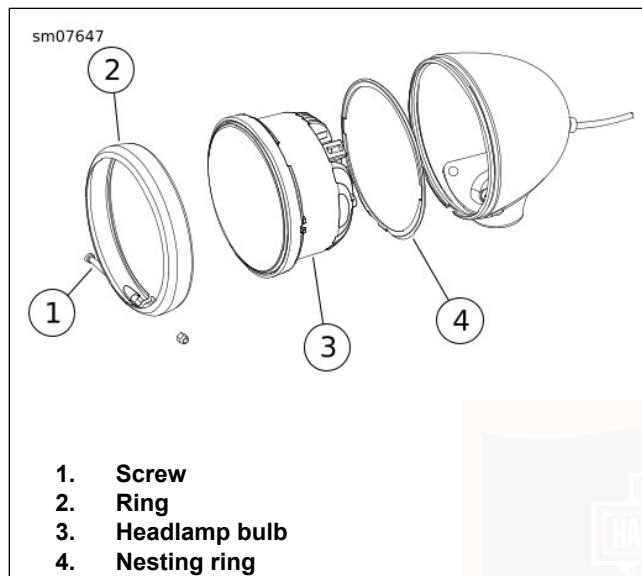

Figure 81. Headlamp Assembly
1. See Figure 81. Remove screw (1). Remove trim ring (2) from lamp housing.
1. See Figure 81. Place nesting ring (4) on back of **new** bulb (3) with the index tab facing away from bulb.